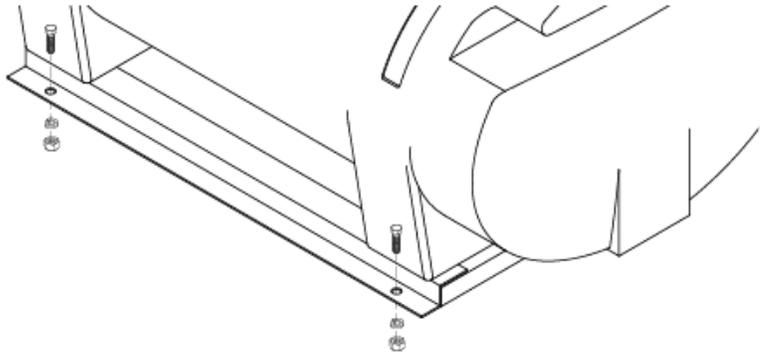

Figure 3: Applicator unit mounting
4. The applicator's tank is mounted on a steel powder-coated frame, which contains four pre-drilled holes. For optimal stability, mount the liquid applicator with bolts using the pre-drilled holes in the sprayer frame. See Figure 3 on page 4.